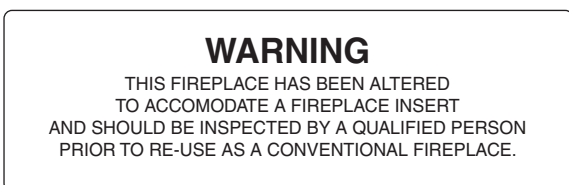

Fig. 20-1 Fireplace Warning Label (see F above)
- F. Firebox liners, glass panels, screen rails, screen mesh and log grates may be removed from the fireplace (as needed) before installing the gas fireplace insert. Smoke shelves, shields and baffles may be removed if attached by mechanical fasteners. Any parts that are removed must be retained for later reinstallation to restore the fireplace to its original operating condition. The removal of any part must not alter the integrity of the outer shell of the pre-fab fireplace cabinet in any way. If any parts are removed (or altered) from the existing fireplace, a Warning Label (see Fig. 20-1 below) must be affixed inside the fireplace firebox. The label must be visible upon removal of the direct vent insert.